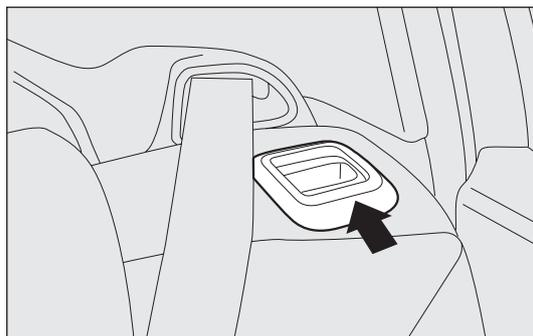

fig. 125
**IMPORTANT** When the red band next to the backrest folding levers fig. 125 disappears, it means the backrest is properly secured. If you can still see the red band, the backrest is not securely fastened. When returning the backrest to its normal position, make sure it is correctly fastened and you hear the lock click.